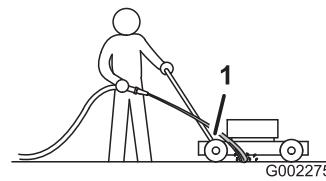

Figure 46
3. Hold the running garden hose at handle level and direct the water to flow on the ground just in front of the right rear tire (Figure 46).